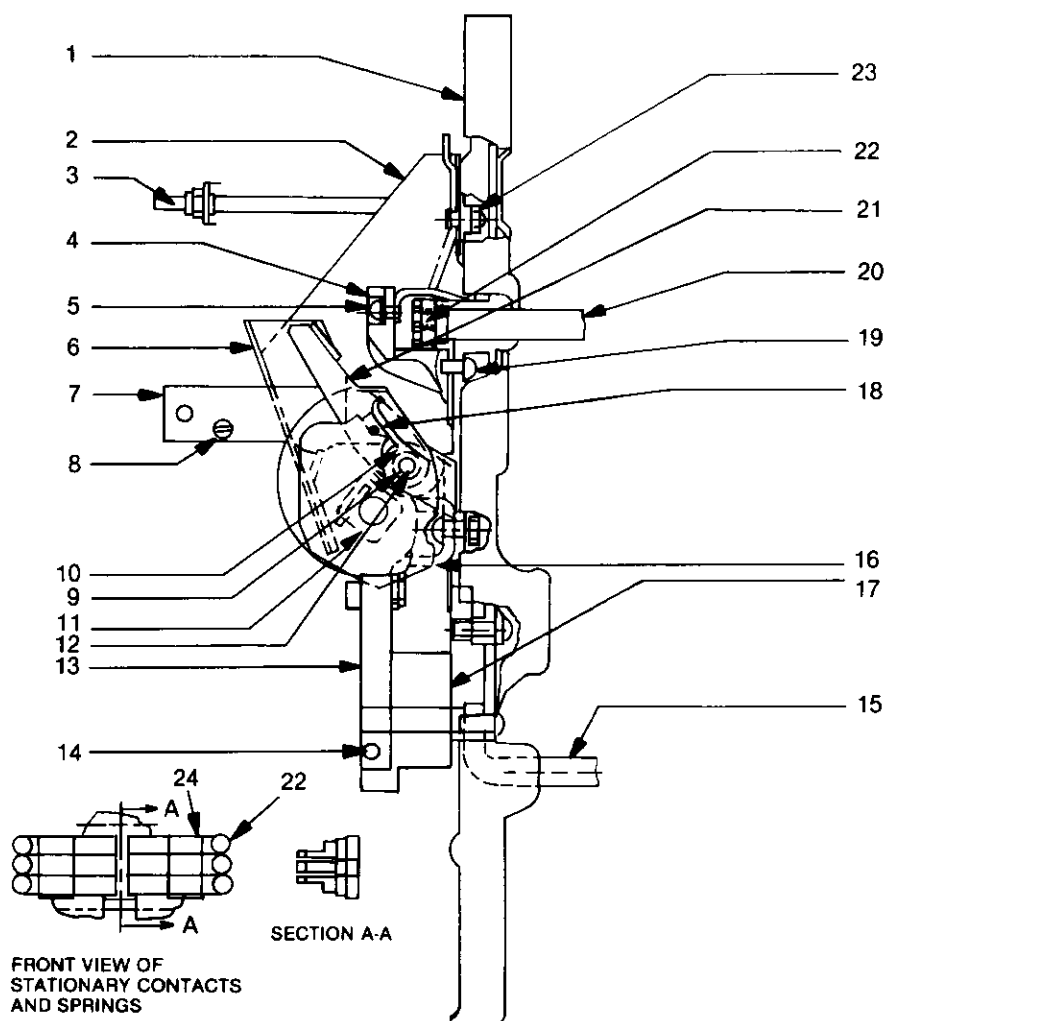
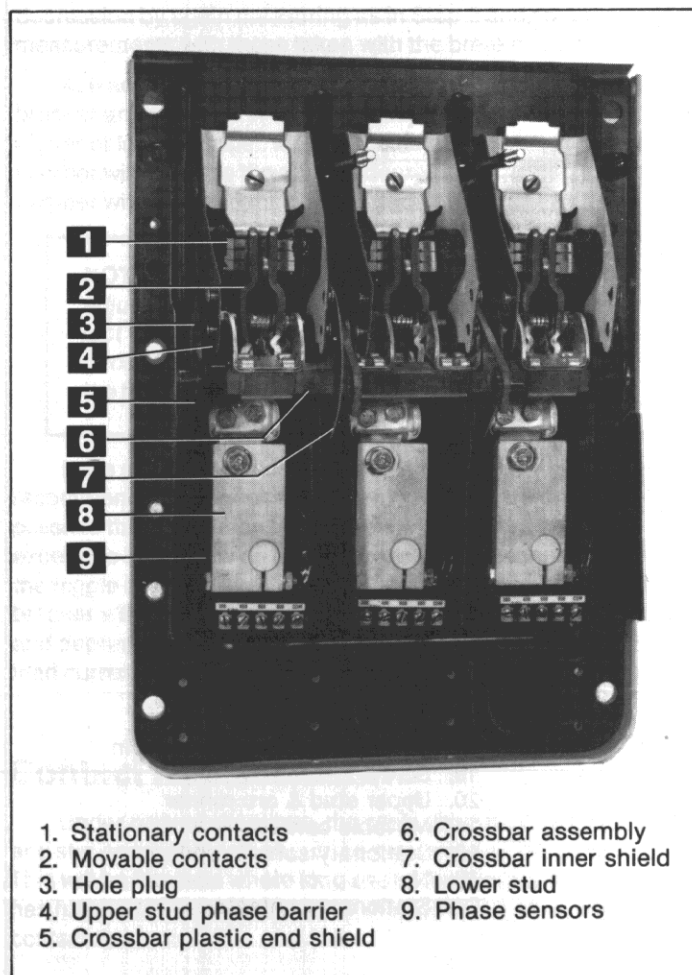

Fig. 5. Back frame/contact assembly
Fig. 6. Back frame — location of crossbar and pole shields
Removal of Movable Contacts (2), Fig. 6 or (21), Fig. 5
2. Remove two hole plugs (3), Fig. 6, from barrier (2), Fig. 5. Remove the U-shaped insulation barrier (6) from each pole by lifting it and disengaging the rivet heads through the keyholed slots in the insulation.
3. Thread a #8-32 screw lightly into pivot pin (12) on the right pole.
4. With a pair of long-nosed pliers, unhook safety-pin-type spring clip (10) and extract pin (12) and remove spring clip (10).
7. Move the cross bar downward to disengage it from the contact wipe adjusting pin (18) on the center pole; then, move the cross bar toward the front of the breaker.
Removal of Stationary Contacts (1), Fig. 6 or (24), Fig. 5
1. Slip the blade of a heavy screw driver between the two upper contacts (1), Fig. 6, and force the contacts toward their pivot point sufficiently far to disengage the contact stop surface from the pin.
2. The contact can then be removed by disengaging the end of the contact from its spring (22), Fig. 5.
Replacement of Stationary Contacts (1), Fig. 6 or (24), Fig. 5
1. Coat the contact pivot area only of each of the six contacts (1), Fig. 6, with a thin coat of D50HD38 grease.
2. Note the difference between the three types of stationary contacts and be sure to locate them in the breaker with the upper and lower contacts having their stop-projecting surfaces as shown in the section AA, Fig. 5. The upper left and lower right contacts are identical as are the lower left and upper right contacts.
Replacement of Movable Contacts (2), Fig. 6 or (21), Fig. 5
3. Move the cross bar assembly (6), Fig. 6, into position and insert the eccentric contact wipe adjustment pin (18), Fig. 5, on the center pole into position. Be sure the stationary insulation barriers are correctly located.
4. Align the cross bar with the left and right pole pivot supports (16) and install the left and right pole movable contacts.
5. Install the left and right pole pivot pins (12), Fig. 5, while threading them through the spring clips and lock the spring clips (10). Be sure the pivot pins are fully inserted. Press both hole plugs (3), Fig. 6, back into barriers (4). Install the U-shaped insulators (6), Fig. 5. See "Contact Adjustments," at the beginning of this section.
Contact Springs (22), Fig. 5
To replace or adjust the contact springs, the upper stud (20), Fig. 5, must be removed. The hardware which fastens the stud to the breaker base consists of two screws (19) and nut (23). When these are removed, the stud (13) and barrier (2) may be withdrawn from the base in a forward direction.